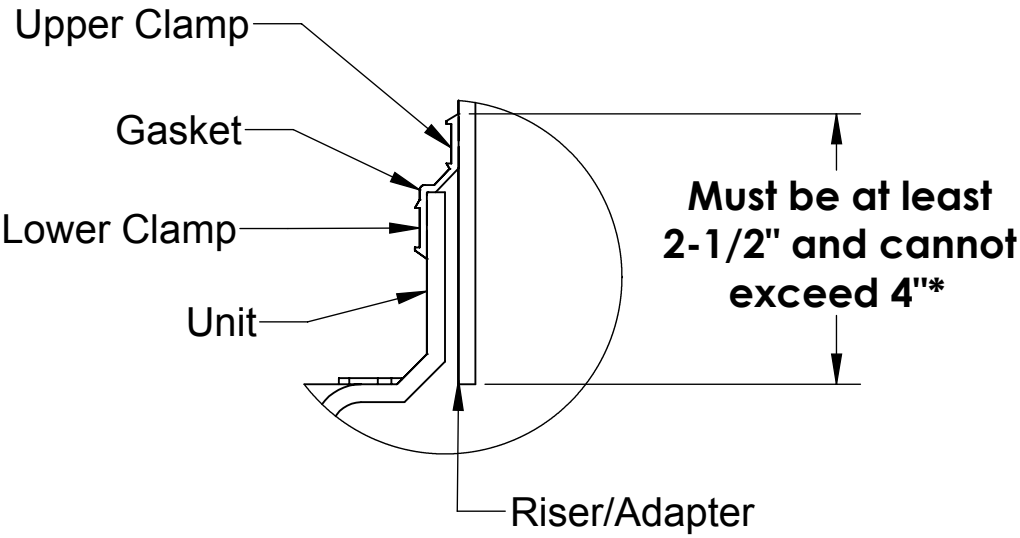

Figure 4
10. Verify that the bottom of the lowest riser is protruding at least 2-1/2" but no more than 4" into the main unit from the top of the gasket. Your mark from step 7 should be at the top edge of the gasket on the main unit. If measurements were made correctly, this should happen automatically. See figure 4.
14. If jobsite riser height conditions change after the above steps have been completed, there may still be room for vertical adjustment in both directions. As long as minimum and maximum overlaps are maintained (see Figure 4), the adapter/riser(s) can be adjusted/cut as many times as necessary. Please follow these steps from the beginning to ensure the proper overlaps are maintained.